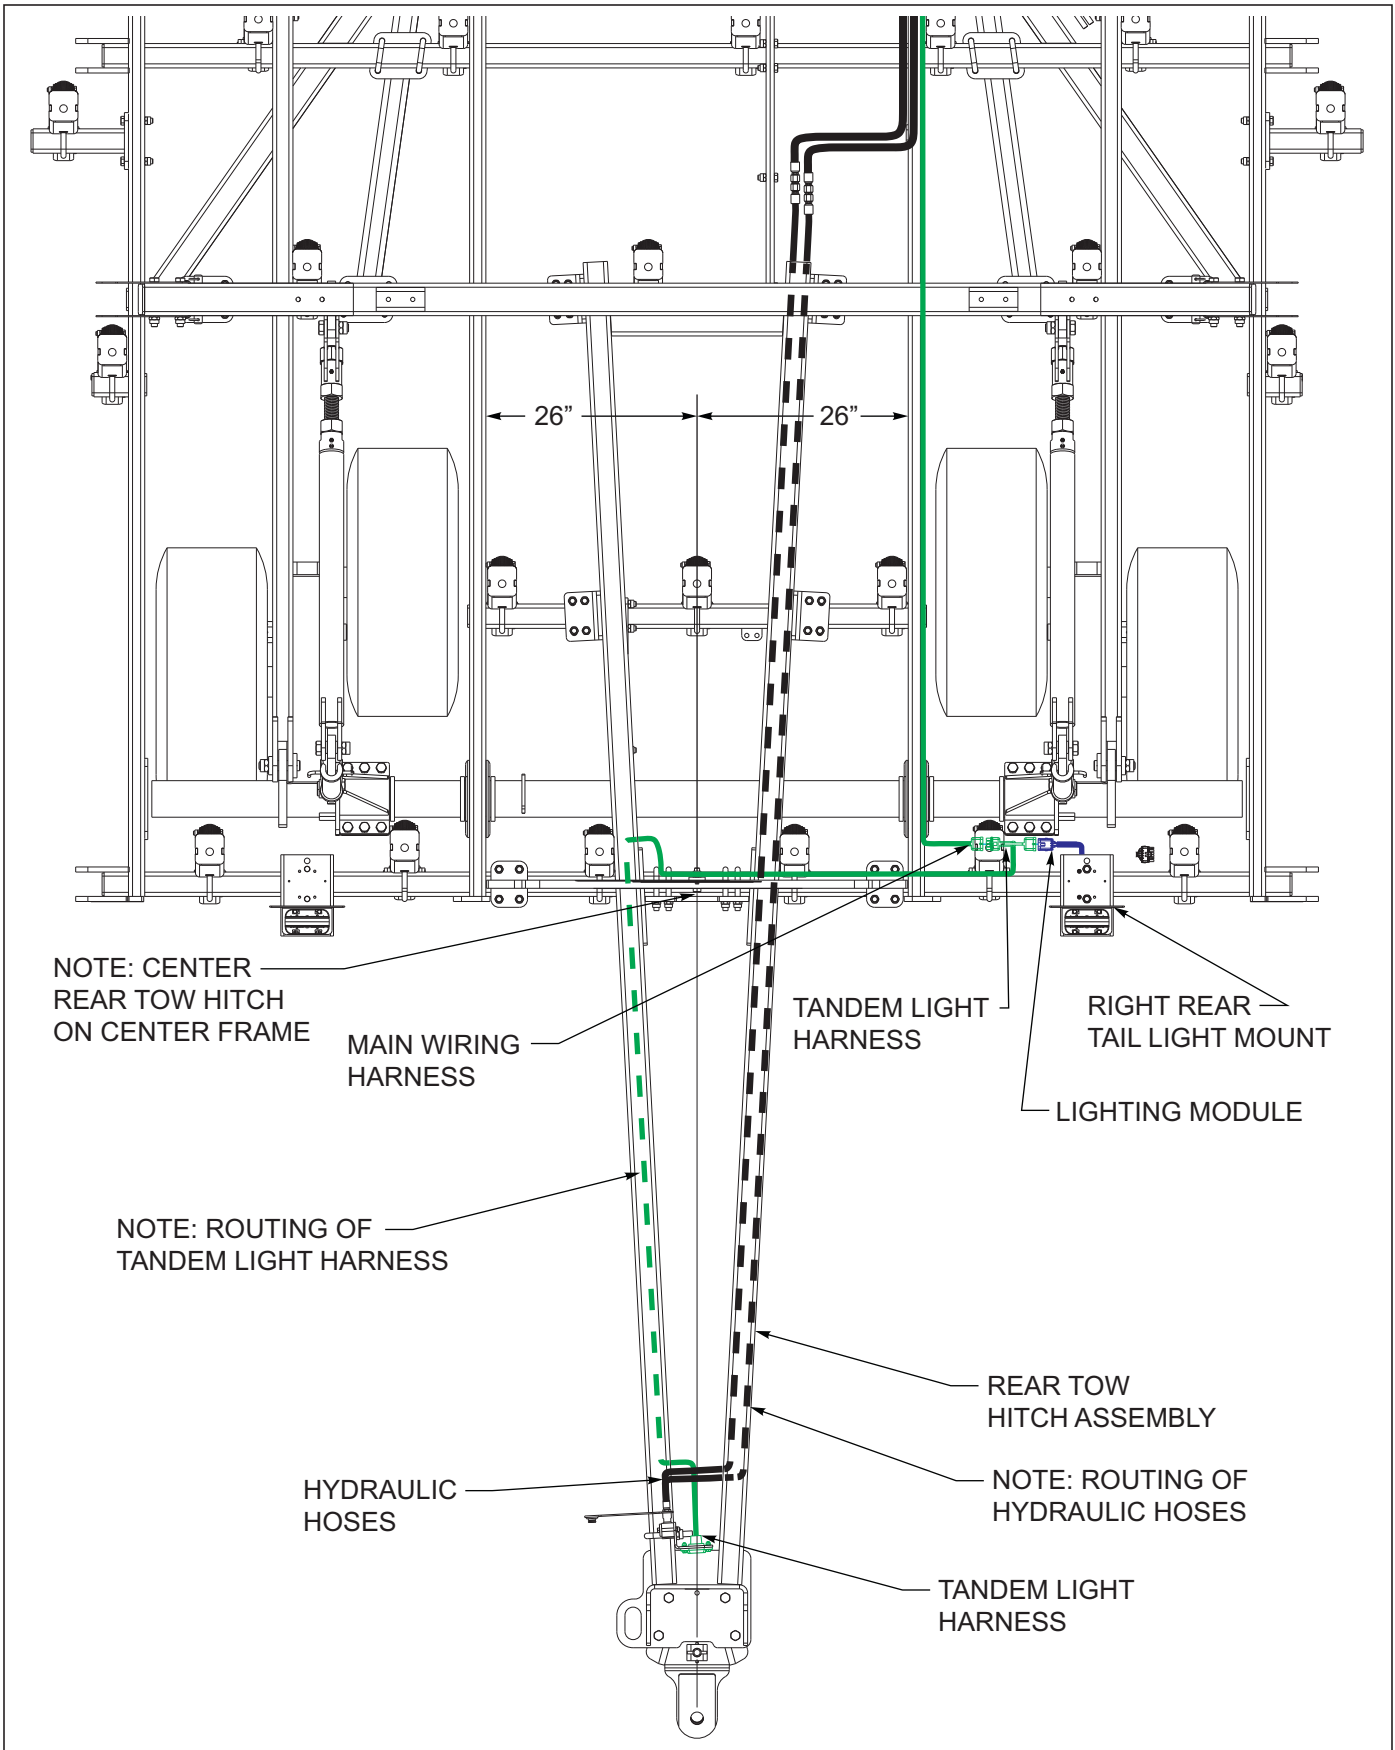

Figure 3-25: Rear Tow Hitch Layout
8. Center the rear tow hitch assembly on center frame *See Figure 3-25*, tighten all u-bolts to secure hitch.
10. Route the tandem light harness connector across the rear frame bar to the right rear tail light. Unplug the existing four-pin main wiring harness from the lighting module. Connect the rear tow hitch harness between the lighting module and the main wiring harness *See Figure 3-24* and *See Figure 3-25* for proper hose and light harness routing.